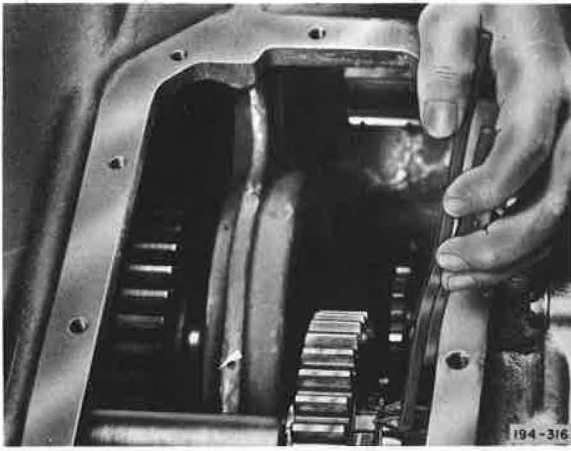

Figure 5-33. Removing Rear Countershaft P. T. O. Gear Front Snap Ring
13. Remove countershaft rear bearing cover capscrews and covers. Remove power take-off cover capscrews and covers. Through power take-off cover openings, remove the lower and right-hand rear countershaft power take-off gear front snap rings. See Figure 5-33.